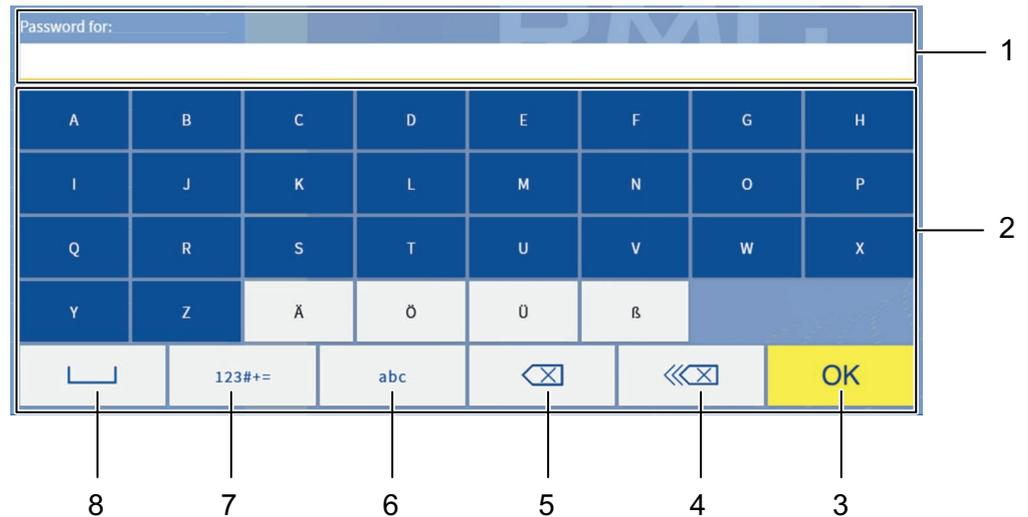

Fig. 40: Password input window
- ➔ The input window opens (see fig. 40).